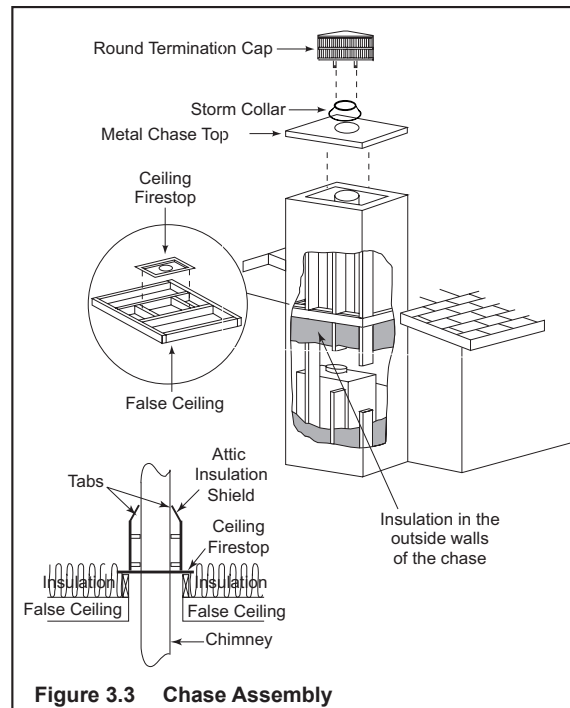

Figure 3.3 Chase Assembly
- In cold climates, the walls of the chase should be insulated to the level of the false ceiling as shown in Figure 3.3. This will help reduce heat loss from the home around the fireplace.
Figure 3.3 shows a typical framing (using 2 x 4 lumber) of the fireplace, assuming combustible materials are used. All required clearances to combustibles around the fireplace must be adhered to. See Figure 3.2. Any framing across the top of the fireplace must be above the level of the top non-combustible framing. (No recess above fireplace.)